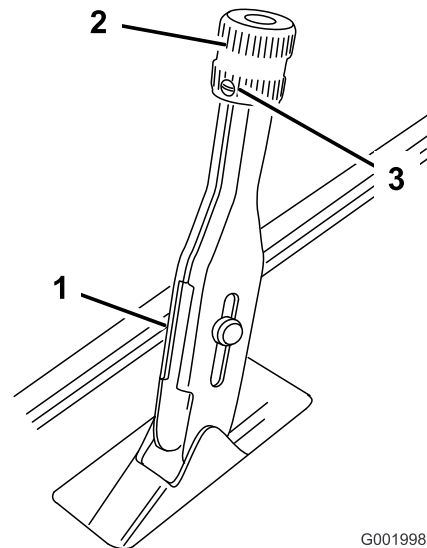

Figure 60
1. Loosen the set screw securing the knob to the parking brake lever (Figure 60).